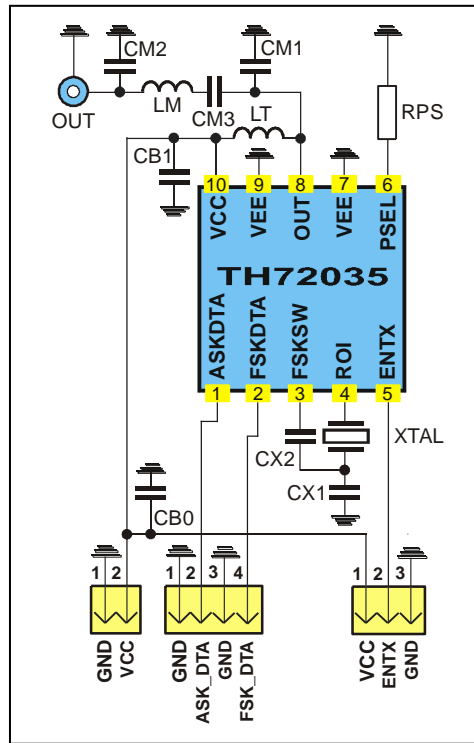

Fig. 18: Test circuit for FSK and ASK with 50 Ω matching network
typical values at $T_A = 23\text{ °C}$ and $V_{CC} = 3\text{ V}$; test circuit shown in Fig. 18, $f_c = 868.3\text{MHz}$
- Data according to test circuit in Fig. 18 (868.3MHz)
6.1. Test circuit component list to Fig. 18